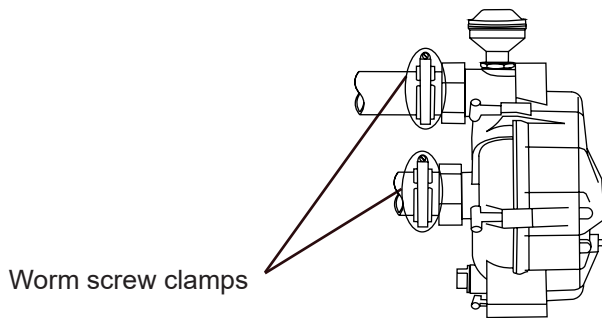

Fig. 17
3. Using a screw or nut driver, loosen the worm screw clamps (Fig. 17). Carefully remove them from the flanges then slide them to the right.